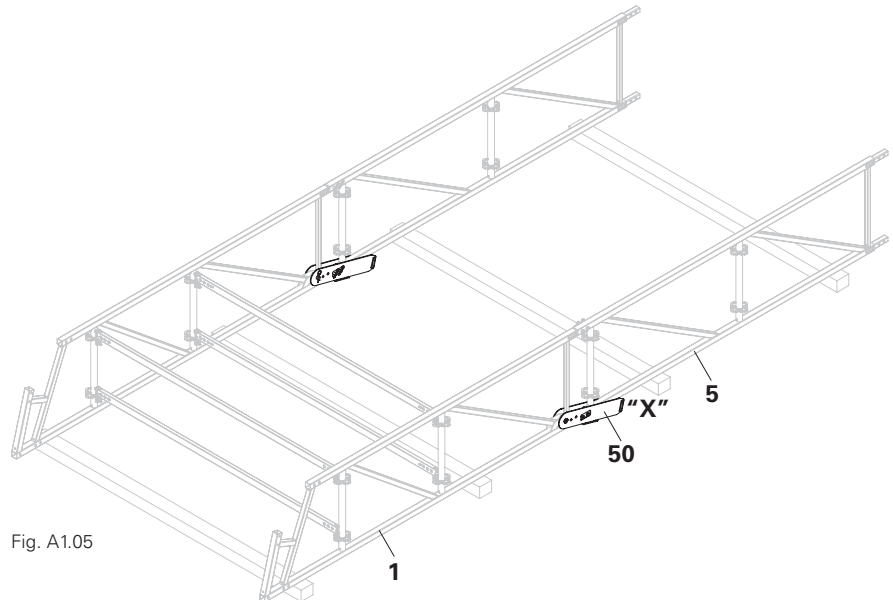

Fig. A1.05
1. Push the tube of the standard element (**5**) onto the pin of the eaves element (**1**). (Fig. A1.05)